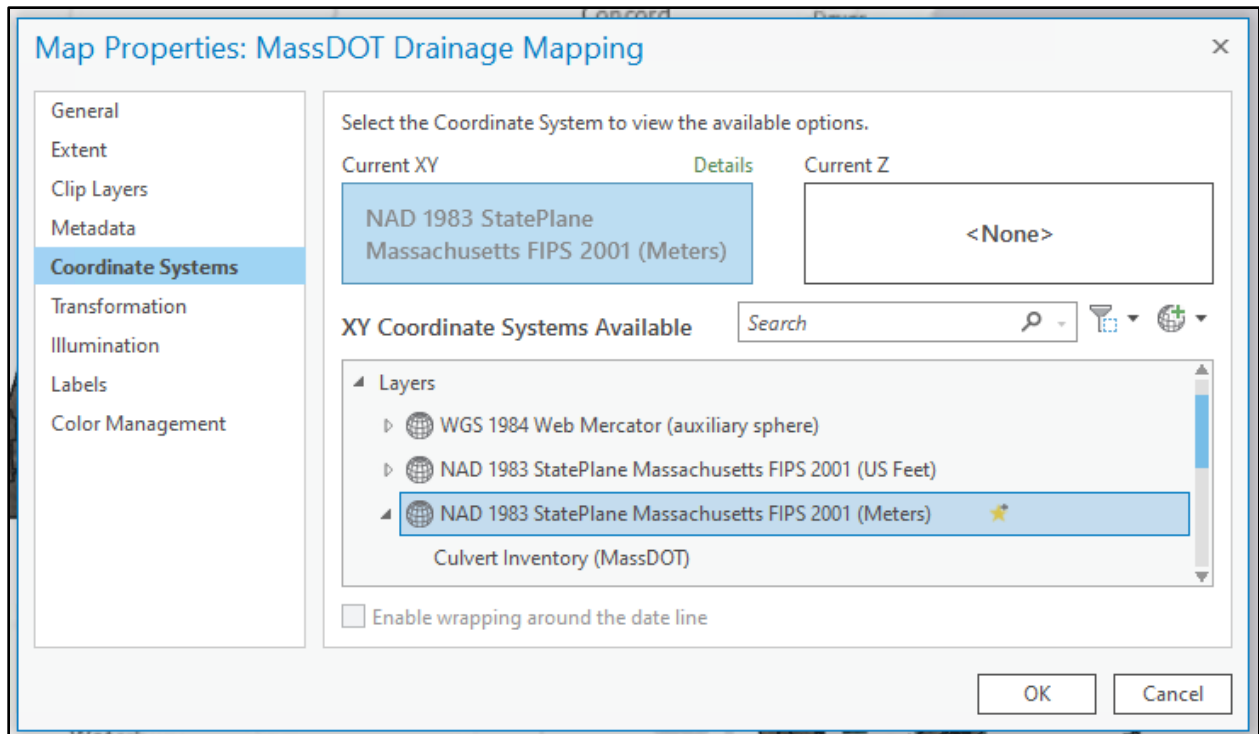

Figure 7
10. In the Contents Pane, navigate to Map Properties. On the Coordinate Systems tab, select "NAD 1983 StatePlane Massachusetts FIPS 2001 (Meters)" if not already listed as the current coordinate system (Figure 7). Click OK and save your ArcGIS Pro project.